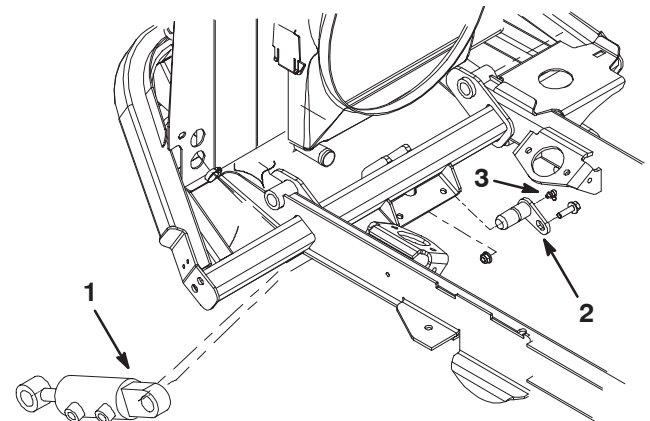
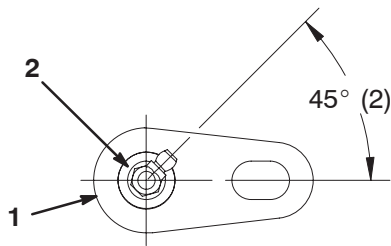

Figure 12
Figure 13
- 15.** Mount the stationary end of the hydraulic cylinder to the underside of the frame cross member bracket with a pivot pin (Fig. 12).
- 16.** Secure the pivot pin to the frame bracket with a screw (3/8 x 1-1/4 inch) and a flange nut (3/8), positioning as shown in figure 12.
17. Thread a 90 degree grease fitting into the end of the pivot pin (Fig. 12). Position the grease fitting as shown in figure 13.